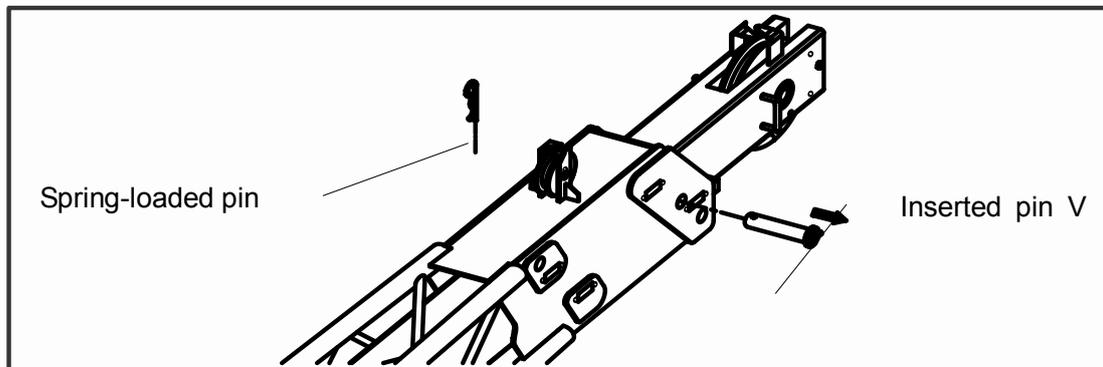

Fig.05-09
- j) Remove inserted pin V and spring-loaded pin if jib section 2 is to be used. See Fig.05-09;